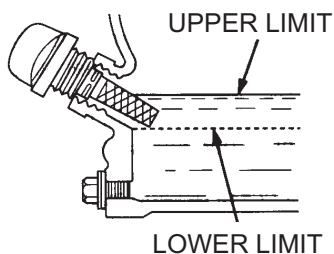

Figure 4. Engine Oil Dipstick
4. If the oil level is low (Figure 4), fill to the edge of the oil filler hole with the recommended oil type (Table 4). Maximum oil capacity is 1 quart.